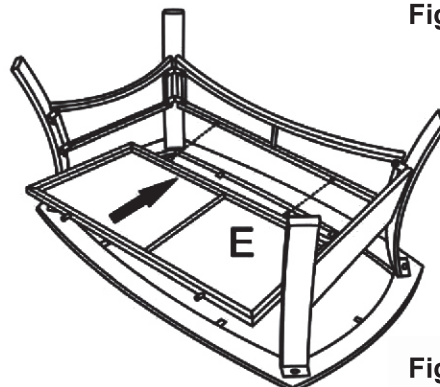

Figure 5
Step 6. Insert the leg connecting plate(E) to the one of the long leg connector. as shown in figure 5.